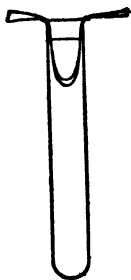

FIG. 17.
b. Take again two nearly equal-sized, but much smaller crystals of cupric sulphate. Fill two test-tubes with water. Put one of the crystals into one of the tubes. Why does it fall to the bottom? Place the other crystal in the second tube (Fig. 17), so that it rests on a narrow strip of ordinary paper and is only just covered by the water. Set both tubes upright in the rack. How long does each crystal take to dissolve? Explain the difference in time.